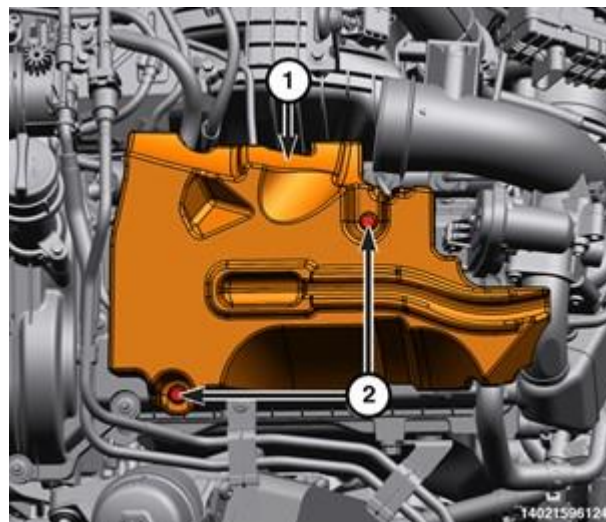

Figure 64 – Left Bank Fuel Rail Cover Bolts
114. Install the left fuel rail cover (1) and securely tighten the bolts (2) (Figure 64).